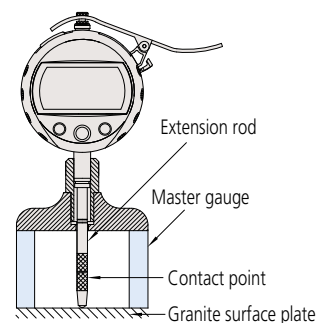

Fig. 3
7. When using extension rods, use a master gage (or gauge blocks) to set up the reference point. (**Fig. 3**)